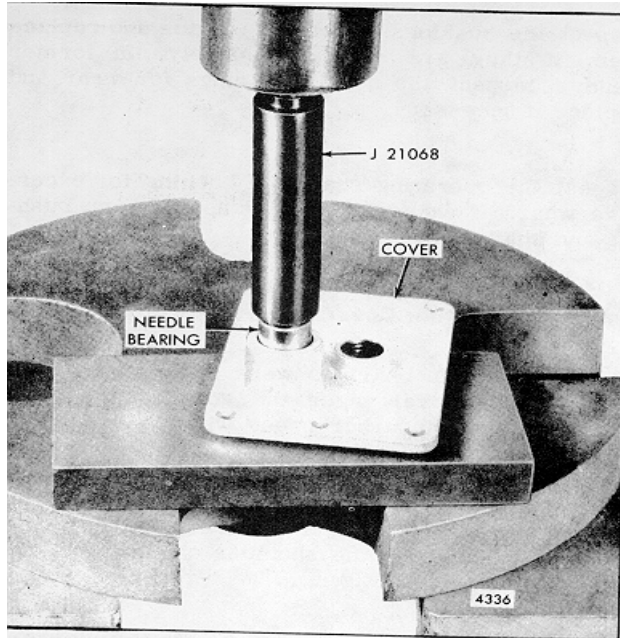

Fig. 5 - Installing Needle Bearings in Governor Cover
1. If the needle bearings were removed from the governor cover place the governor cover on the bed of an arbor press with the inner face of the cover down. Start the upper bearing straight into the bearing bore of the cover with the number on the bearing up. Insert bearing installer J 21068 in the bearing and press the bearing in until the shoulder on the tool contacts the cover (Fig. 5).